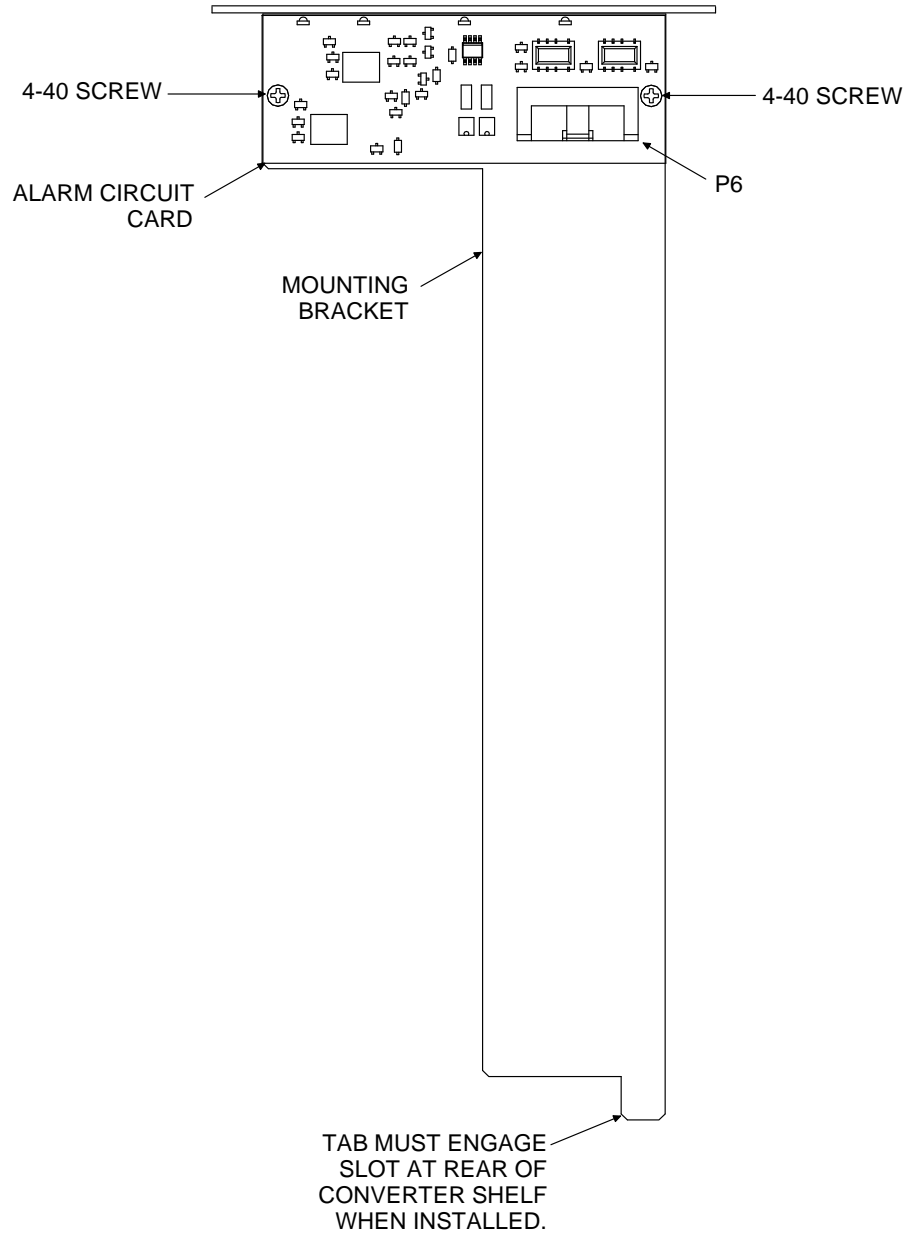

Figure 8-3. Replacing the Converter Shelf Alarm Circuit Card
- 5) Remove two screws and flat washers that secure the alarm circuit card to its mounting bracket. Remove the circuit card. Refer to Figure 8-3.